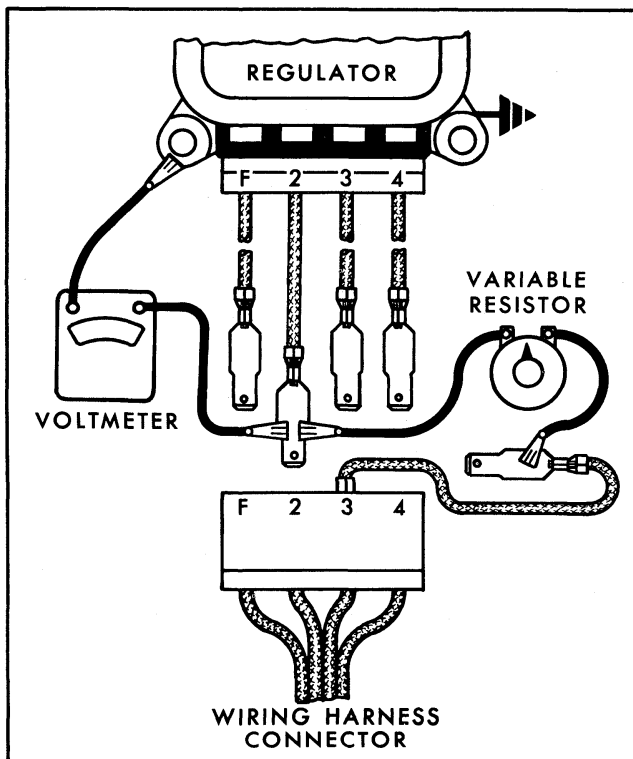

Fig. 11-41 Checking Field Relay Closing Voltage
A. Connect a 50-70 ohm variable resistor and a voltmeter to the adapter as shown in Fig. 11-41. Turn variable resistor to the open or "full resistance" position, and leave the ignition switch in the "off" position.